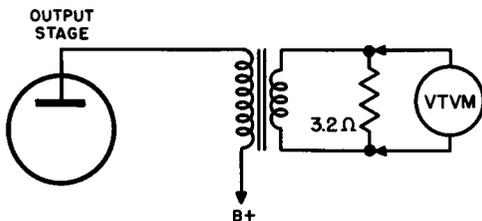

Fig. 6-1. For i-f alignment, connect the vtvm across the output, as shown.
3. Disconnect the speaker voice coil, and connect a 3.2-ohm resistor across the output secondary. As shown in Fig. 6-1, connect a VTVM across this resistor (use the low-range a-c scale of the VTVM).